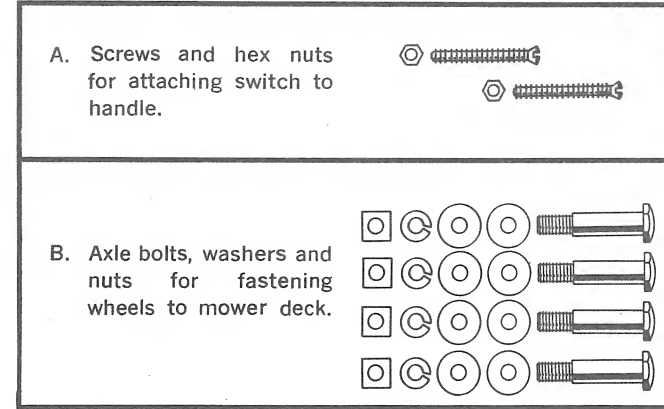
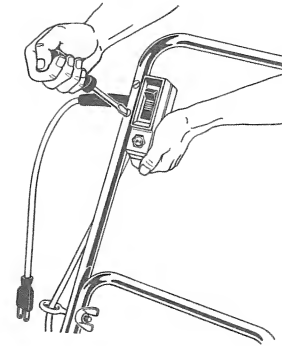

FIG. 1
FIGURE 4
1. Remove cardboard fillers and mower from carton, along with four wheels and plastic hardware bag (contents shown in Figure 1).
3. Attach switch box to upper handle as shown in Figures 4 and 5. Use two screws and hex nuts (Item "A," Figure 1).